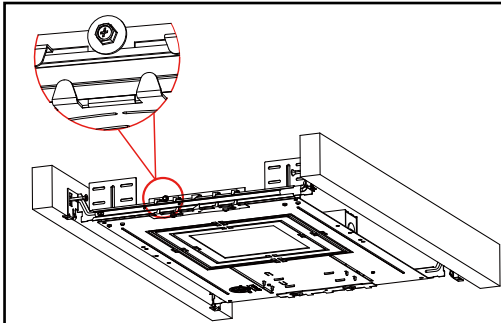

Figure 16
2. Adjust and center the downlight opening hole as desired, by sliding the frame along the bar hangers. Lock and secure the frame with the bar hangers by tightening the edging screws. (Fig.16)